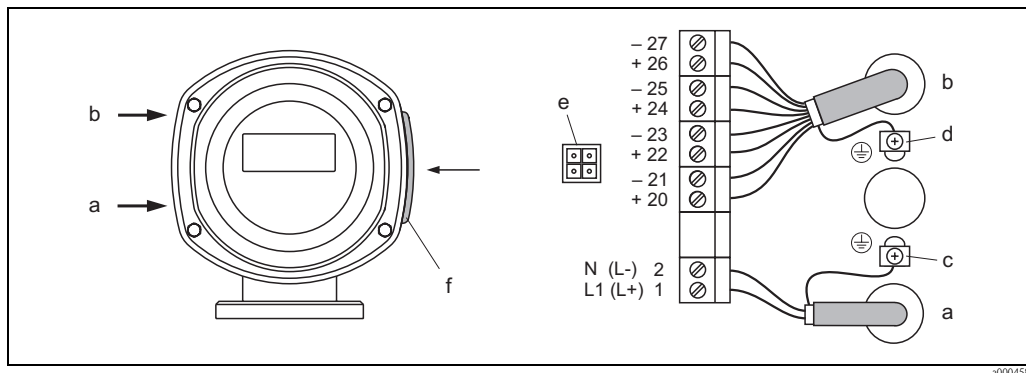

Fig. 36: Connecting the transmitter (stainless steel field housing); cable cross-section: max. 2.5 mm²
- Wiring diagram (stainless steel housing) → Fig. 36